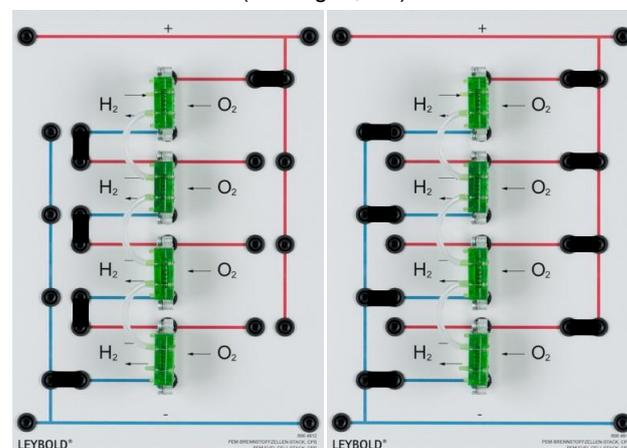

Fig. 3: Left: series connection, right: parallel connection.
1. Successively connect two, three and four fuel cells with one another in series (see Fig. 3, left).
4. Now connect two, three and four fuel cells in parallel (see Fig. 3, right).